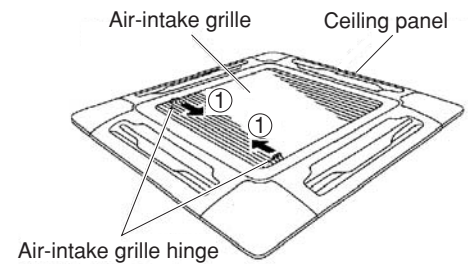

Fig. 9-4
- b) Slide the air-intake grille catches in the direction shown by the arrows ① to open the grille. (Fig. 9-4)